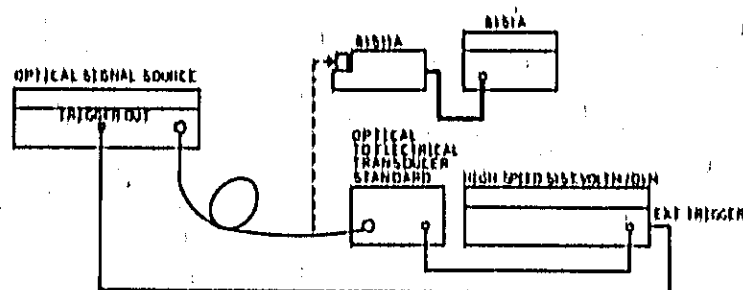

Figure 4-1. Test setup for High Peak Power measurements
6. Connect the Optical Signal Source, via the Transducer Standard, to the System Voltmeter, as shown in Figure 4-1.